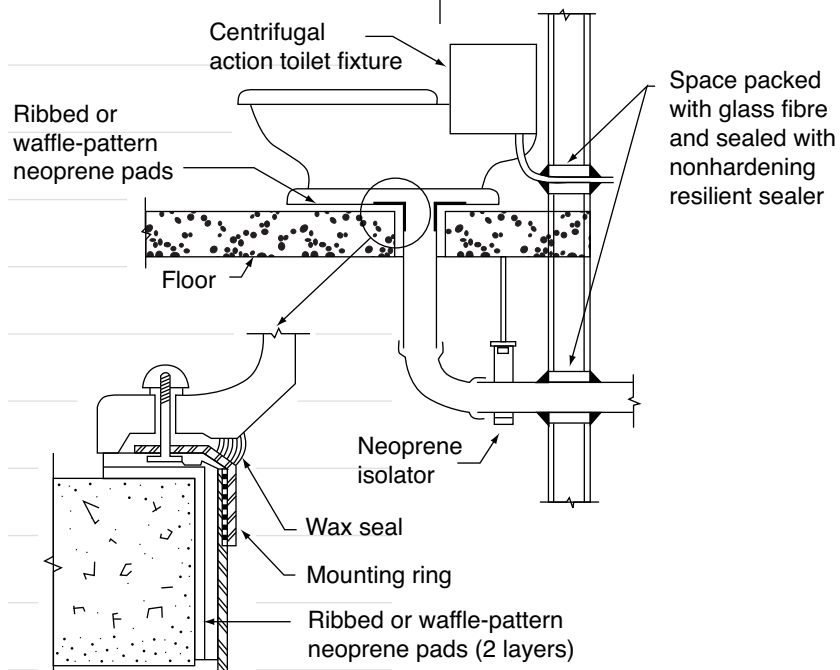

FIGURE 22
- ◆ Use rubber, neoprene, or other resilient pads to reduce vibration transmitted into the structure (see Figure 22).